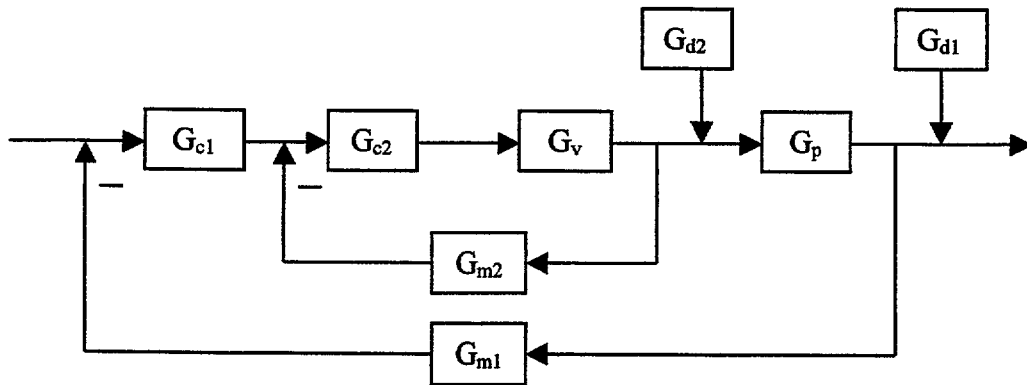

Figure 3. Cascade block diagram
5. a) Consider the cascade block diagram illustrated in Figure 3.